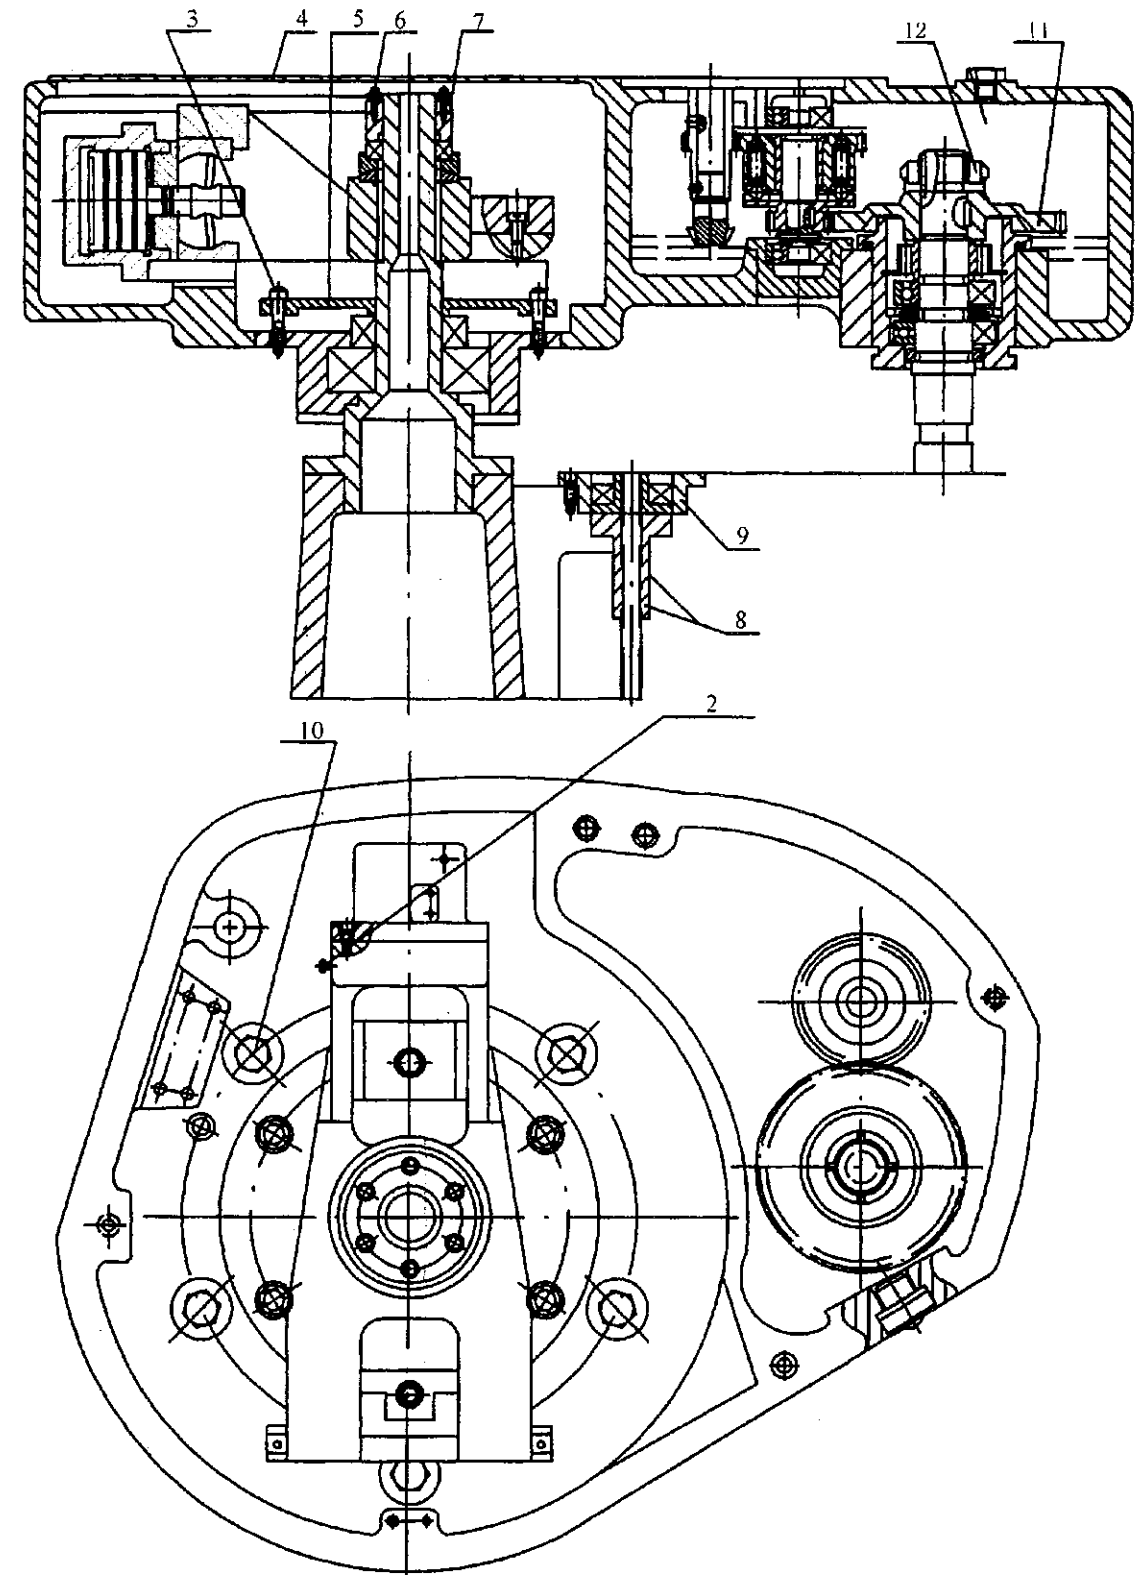

Fig. 2.12 View of column top
2.4.5 Install the top parts of the column as shown in Fig. 2.12: First remove the cover 4 on the body case, mount the body case on the column, tighten the screw 10; then manually rotate the guide screw into the body case, sheathe on the gear 11, and allow it to connect properly with the gear of the motor shaft, screw the nut 12, loosen the screw 2 which is on the clamping level and used to fix the rhombic block, then connect the clamping oil pipe.